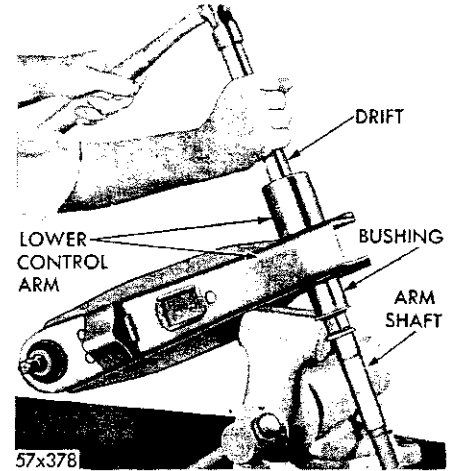

Fig. 10—Removing the Lower Control Arm Strut Assembly
- (1) Dip the new bushing in water and with the tapered portion toward the rear of the vehicle, install the bushing in the opening in the frame using a twisting motion (and/or hammer) until the groove in the bushing indexes properly with the frame.
- (2) With the cupped side out, slide the washer over threaded end of the strut. Push the strut through the bushing in the frame, position the outer washer over the end of the strut (cupped side in) and install the nut.
- (3) Tighten the nut sufficiently to install the strut to the lower control arm mounting bolts. Install the bolts, lockwashers and nuts, and tighten to 100 foot-pounds torque.
- (4) Tighten the nut on the forward end of the strut to 40 foot-pounds torque with the full weight of the vehicle on the wheels.
- (5) Install the sway bar (if so equipped.)
- (6) Set the front end alignment.
9. LOWER CONTROL ARM AND SHAFT (Fig. 10)
- (1) Place the lower control arm in an arbor press (with torsion bar hex opening up). Press the shaft and bushing out of the control arm, using a brass drift (Fig. 10).